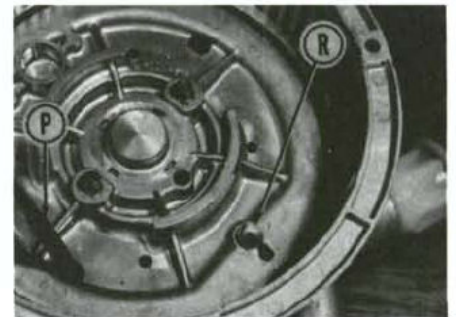

Fig. 25—Rope anchor (R) properly seated in pulley. Install starter grip, then allow spring to slowly recoil.
and withdraw the rope. Make sure spring is installed as shown in Fig. 23. Working through anchor hole (C) with a suitable punch to make sure spring is anchored in pulley, reinstall the pulley without the rope. Insert a punch (P—Fig. 25) part way into pulley and completely wind the spring. Allow spring to uncoil until anchor hole (R) is aligned with outlet hole (X—Fig. 24), then block pulley from further rotation by wedging punch (P) against spring anchor pin (A—Fig. 23). With pulley correctly positioned, install rope from inside as shown in Fig. 24 and 25. Complete the assembly by reversing the disassembly procedure.